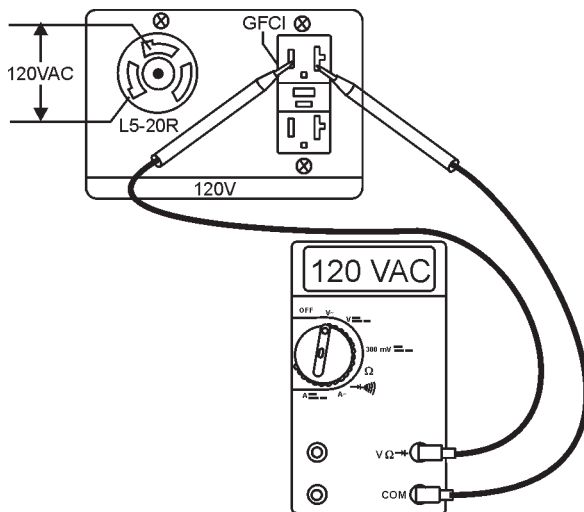

Figure 15. 120 VAC GFCI Receptacle
- If desired, verify with a voltmeter (Figure15) that 120 VAC is present at the GFCI duplex receptacle and the 120V twist-lock receptacle.